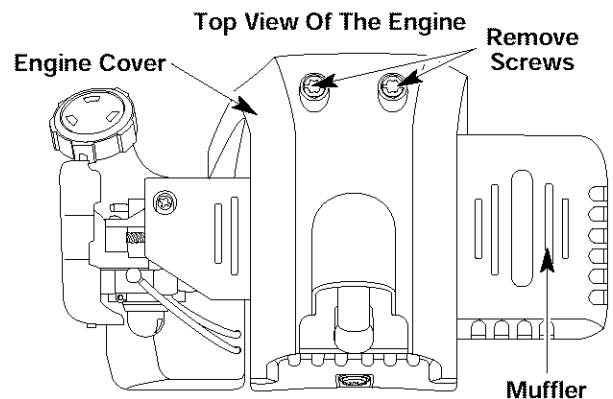

Fig. 42
2. Remove the two (2) screws on top of the engine cover with a Flat-head or T-25 Torx screwdriver (Fig. 42).
- Remove the engine cover (Fig. 42).